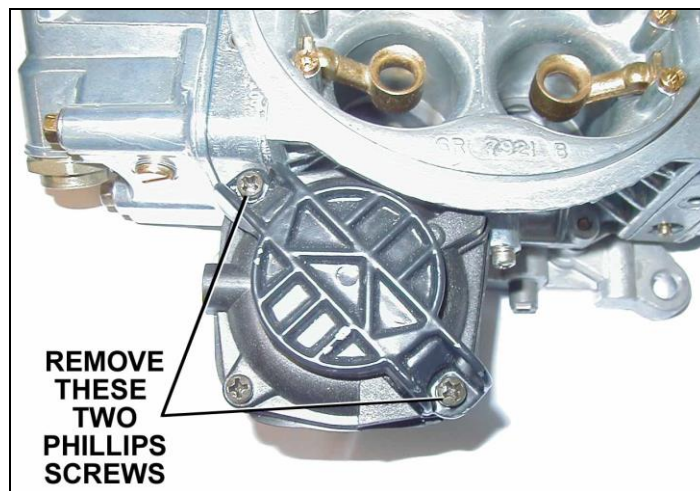

Figure 13
2. Remove the 2 Phillips screws from the black vacuum diaphragm spring cap (**Figure 13**).
8. Tighten the two Phillips screws securely and reinstall the air cleaner, as shown in **Figure 13**.